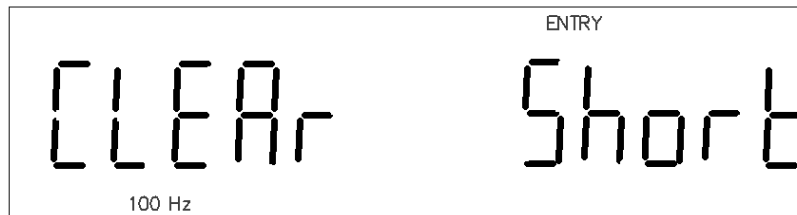

Figure 3-3 Short Correction
11. If short correction is to be performed, short the measurement contacts of the fixture together with a low impedance shorting plate. The information shown in Figure 3-3 will be displayed.